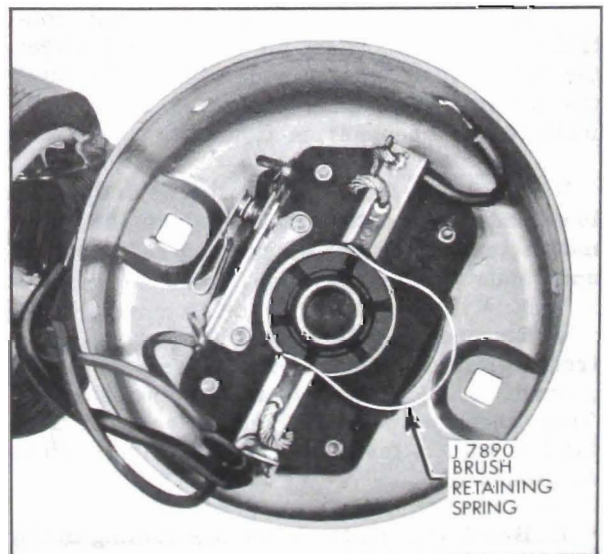

Figure 1-26—Brush Retainer Spring
6. Pull the armature out of the case and install brush retainer spring, Part Number J-7890, as shown in Figure 1-26.